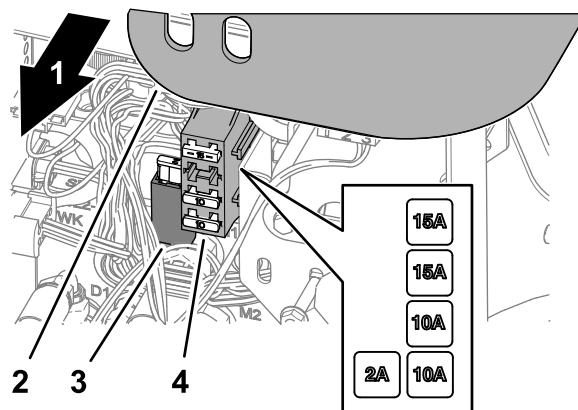

Figure 65
1. Lift the cover from the control arm (Figure 65).
2. Locate the open fuse in the fuse holder or fuse block (Figure 65).
4. Assemble the cover onto the control arm (Figure 65).